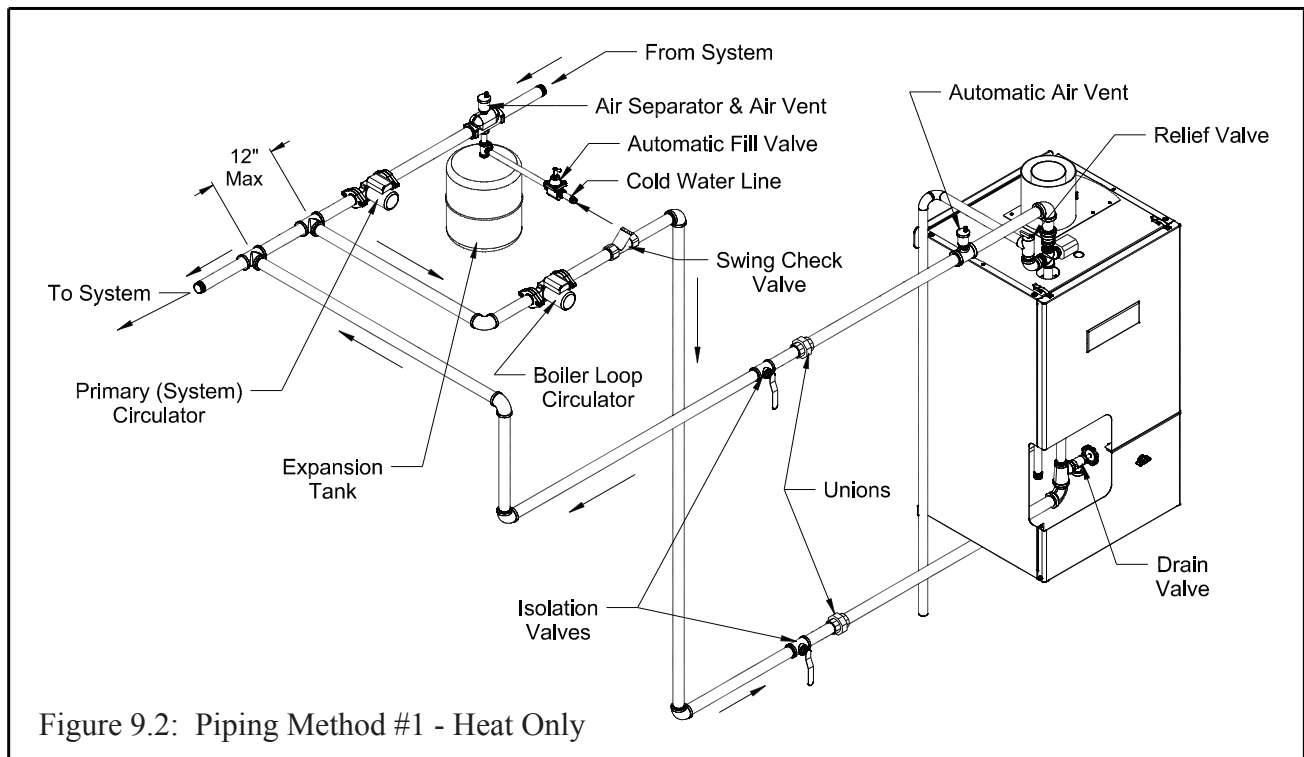
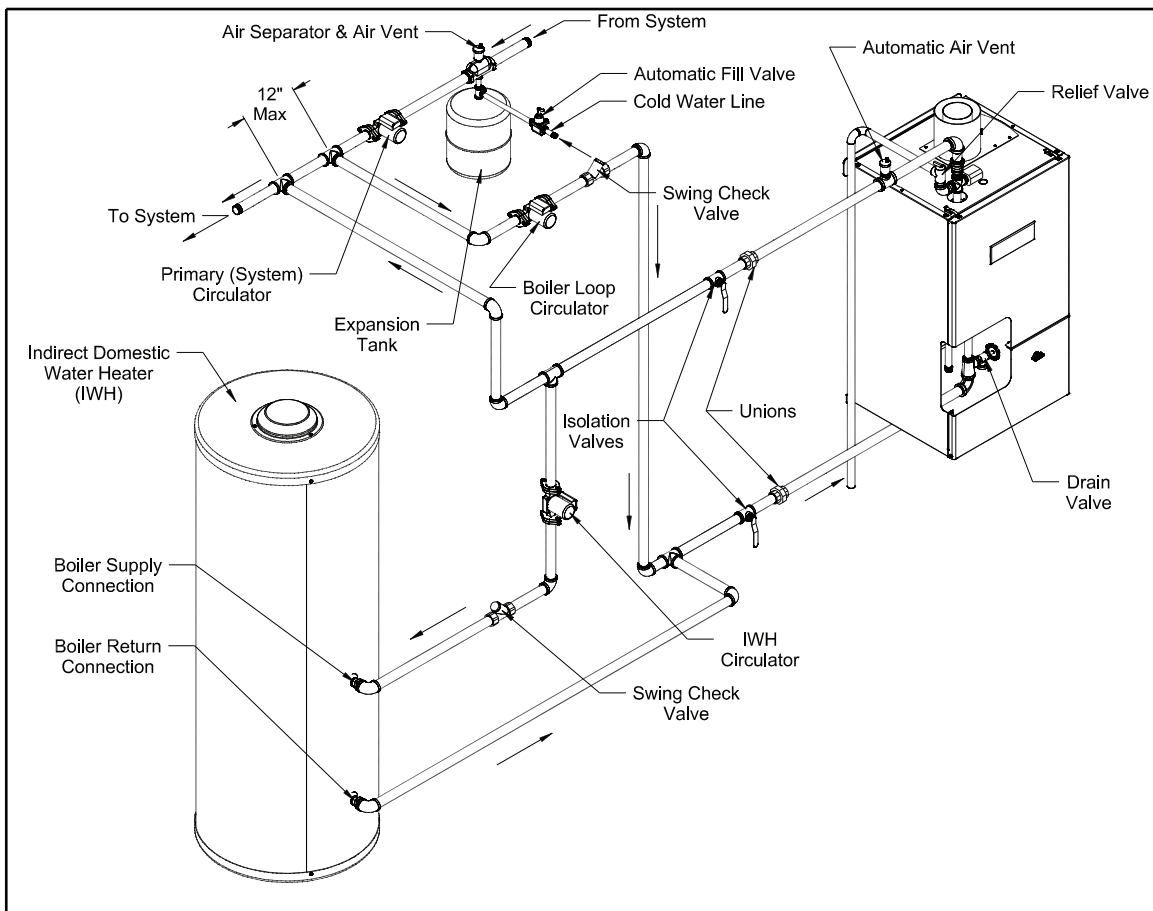

Figure 9.2: Piping Method #1 - Heat Only
Figure 9.3: Piping Method #1 - Heat + Indirect Water Heater
This method can be used in heat-only applications as shown in Figure 9.2 or with an indirect water heater as shown in Figure 9.3. This method relies on primary/secondary pumping to ensure that the required flow is always maintained through the boiler. In this system, the flow rate through the boiler is completely independent of the flow rate through the heating system. Use the following guidelines to ensure that the boiler will have the required flow shown in Table 9.1 regardless of the flow in the heating system.
Example – Assume that a BWC120 is to be installed in a heating system along with a Crown MS-40 indirect water heater. A total of 15 ft of straight pipe will be installed between the boiler and the primary loop. A total of 20 ft of straight pipe will be installed between the boiler and the indirect water heater. Fittings are arranged as shown in Figure 9.3. A 9.0 GPM flow is required in the boiler loop. The MS-40 requires a flow rate of 8 GPM and has a head loss of 3.0 ft.
- 9) Drain Valve (Required) - The drain valve is installed on the return tee located in the lower vestibule compartment as shown in Figure 9.2.